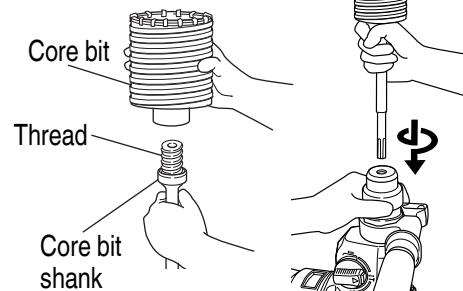

Fig. 32
(1) Mount the core bit to the core bit shank (**Fig. 32**).